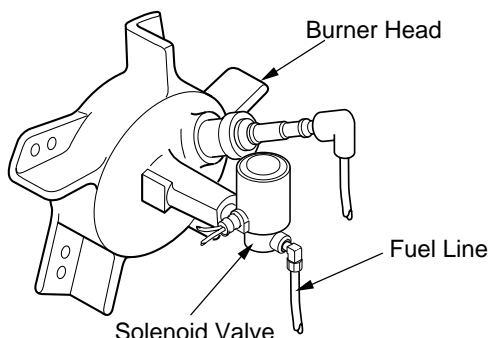

Figure 15 - Fuel Line at Solenoid Valve
- Use 7/16" wrench and tighten fuel lines at solenoid valve, pump, and fuel filter canister (if equipped) (see Figure 15, page 11).